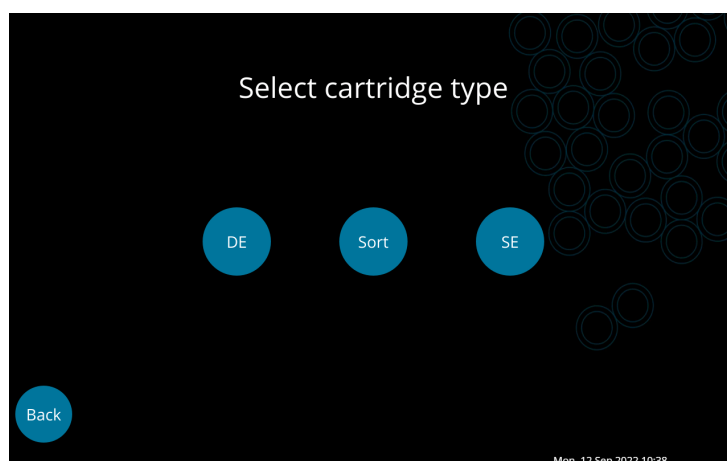

Fig. 3.7. The **Select cartridge type** screen. Select **Sort** for double-emulsion droplet sorting.
5. Xdrop Sort can operate with Xdrop DE20, DE20 Sort or SE85 Cartridges. Choose the Xdrop DE20 Sort Cartridge option by selecting **Sort** on the touchscreen (Fig. 3.7).